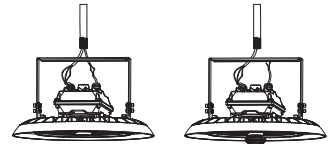

Figure 9
2. Insert 1/2" NTP stem into the bracket hole. (Figure9)